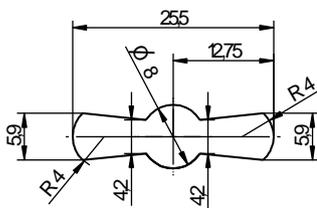

Fig. 1: Key guide 86101
- Use of the Kaba Mauer key guide (see Fig. 1) or of the Kaba Mauer key carrier guide (see Fig. 2) is recommended. Considering DIN 2768-mH, the keyhole in the door of the ... accordingly (see Fig. 1 or 2).